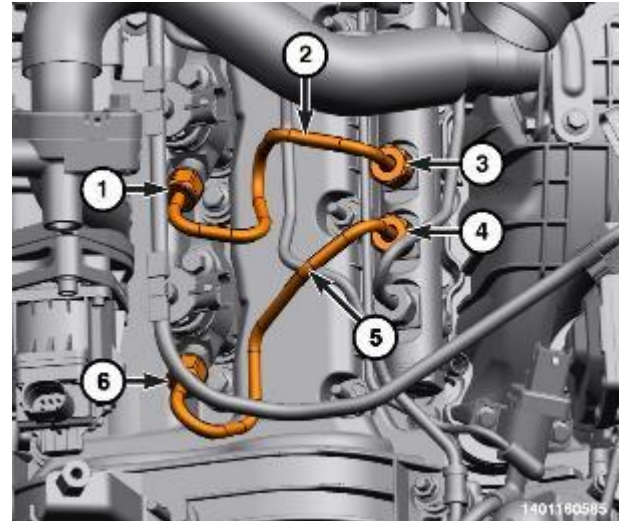

Figure 164 – Fuel Tubes
30. Remove and discard the right-side fuel tubes (5, 2) from fuel injectors No. 1 and 2 (Figure 164).
51. Install the **NEW** right-side fuel tubes (5, 2) to the fuel injectors No. 1 and 2 and to the fuel rail and hand tighten the nuts. Tighten the union nuts to 11 + 75° (8 + 75°) (Figure 164).